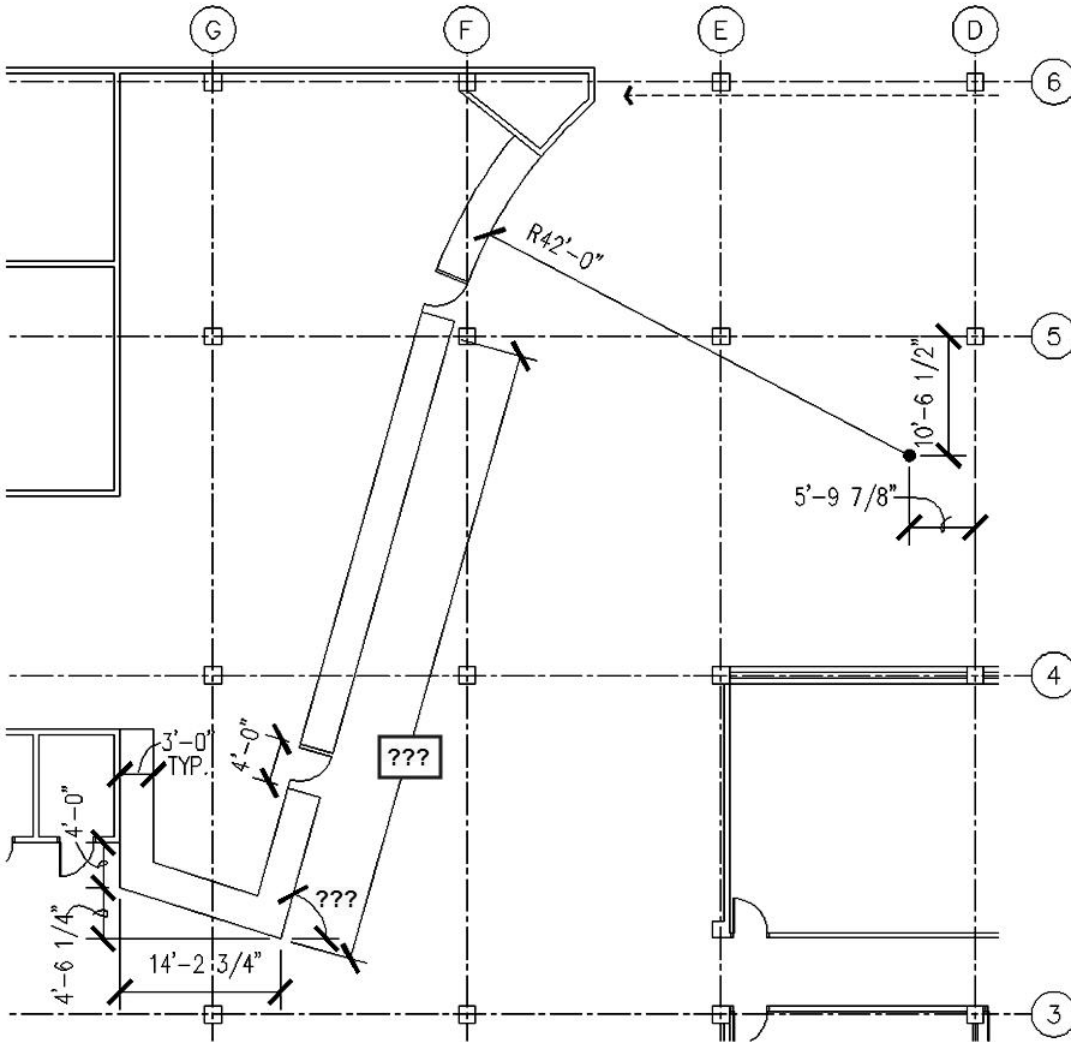

FIGURE 4-2.4A Drawing the checkout counter casework
5. Draw the checkout counter shown in Figure 4-2.4a, *plus*: